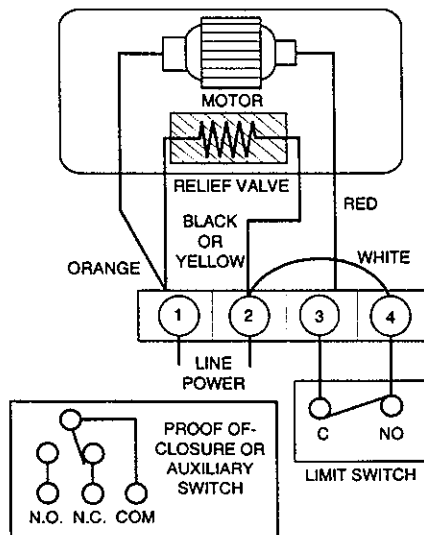

Figure 3. Typical AH2B/AH13B Actuator Wiring
3. Connect the power wiring to terminals 1 and 2, and splice the ground wire to the green wire beside the terminal strip (Figure 3).